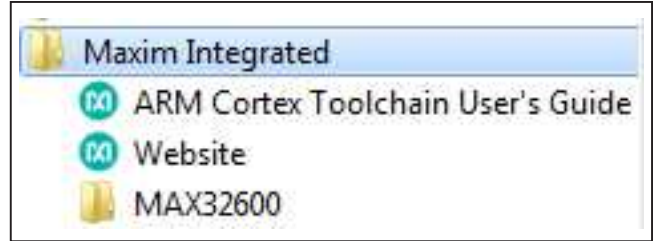

Figure 2. Screenshot of Installed Files and Folders
*A lot of valuable information resides in the **MAX32600 Resources** component of the Installer. Once this component is installed, the information can then be found in the Windows Start Menu under Maxim Integrated, as shown in Figure 2.